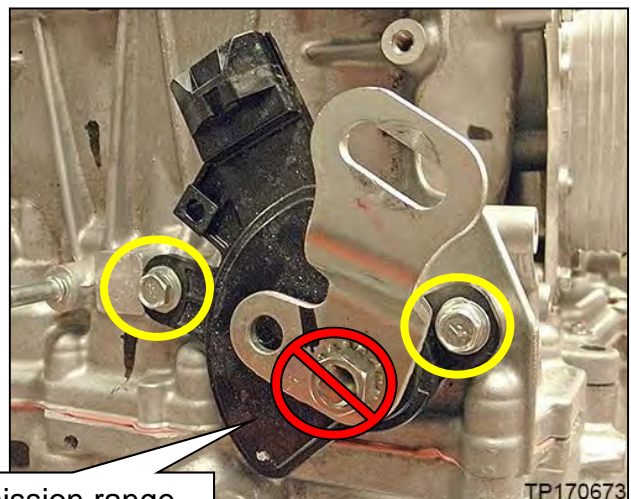

Figure 89
68. Remove the two (2) bolts shown in Figure 89 for the transmission range switch.